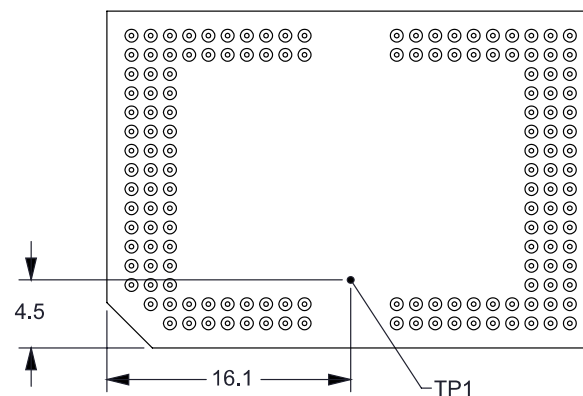

Figure 7-4. DMD Thermal Test Points
Relationship between array temperature and the reference ceramic temperature (thermocouple location TP1 in Figure 7-4) is provided by the following equations:
- T_{CERAMIC} = measured ceramic temperature, TP1 location in Figure 7-4 (°C)
- Q_{ARRAY} = total power, electrical plus absorbed, on the DMD array (W)
- $Q_{\text{ELECTRICAL}}$ = nominal electrical power dissipation by the DMD (W)